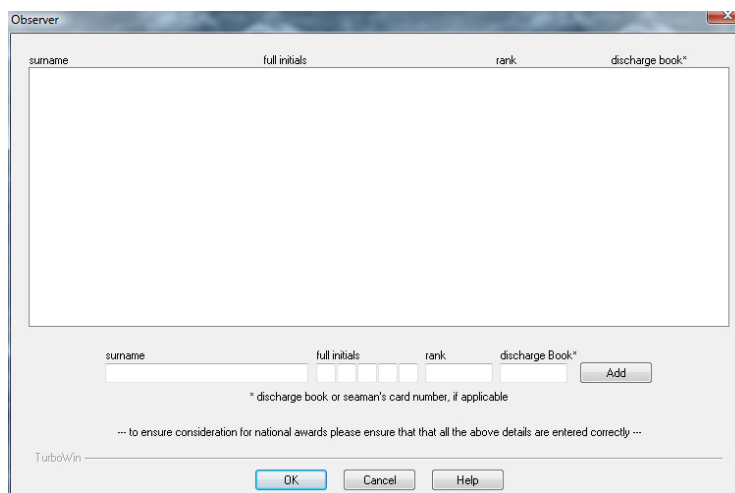

Figure 34. Observer dialogue box
- 10.16.2. Select the Observing Officer responsible for making the observation from the list of names appearing in the dialogue box shown in **Figure 34**.